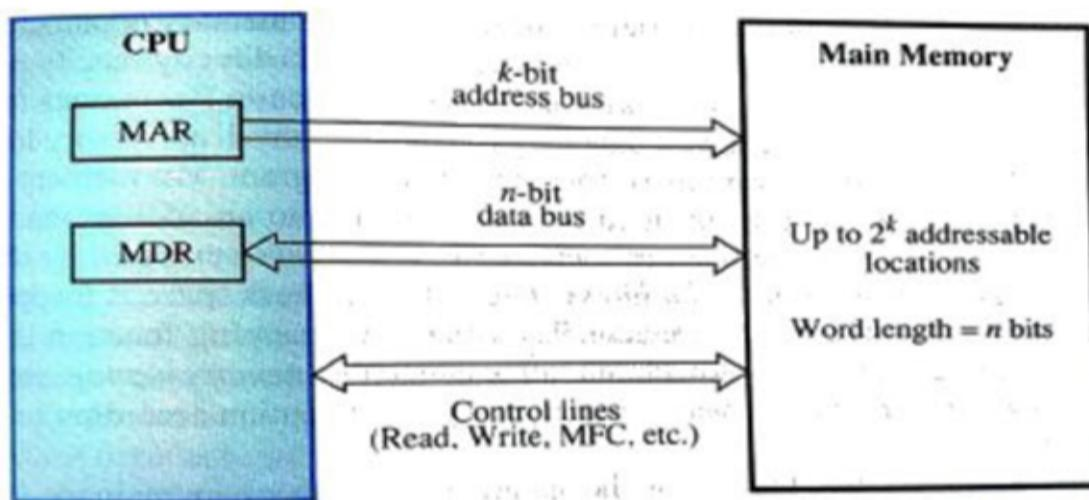

FIGURE 5.2
- As shown in the figure 5.2, if MAR is K bits long and MDR is ‘n’ bits long, then the Main Memory unit may contain up to 2^k addressable locations and each location will be ‘n’ bits wide, while the word length is equal to ‘n’ bits.